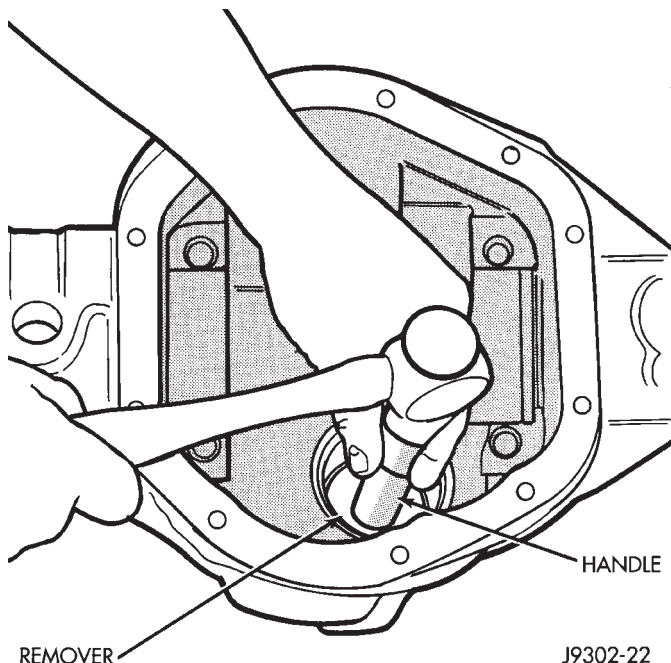

Fig. 21 Front Bearing Cup Removal
(7) Remove the pinion seal with a slide hammer or suitable pry bar.
(8) Remove oil slinger, if equipped, and the front pinion bearing.
(9) Remove the front pinion bearing cup with Remover D-158 and Handle C-4171 (Fig. 21).